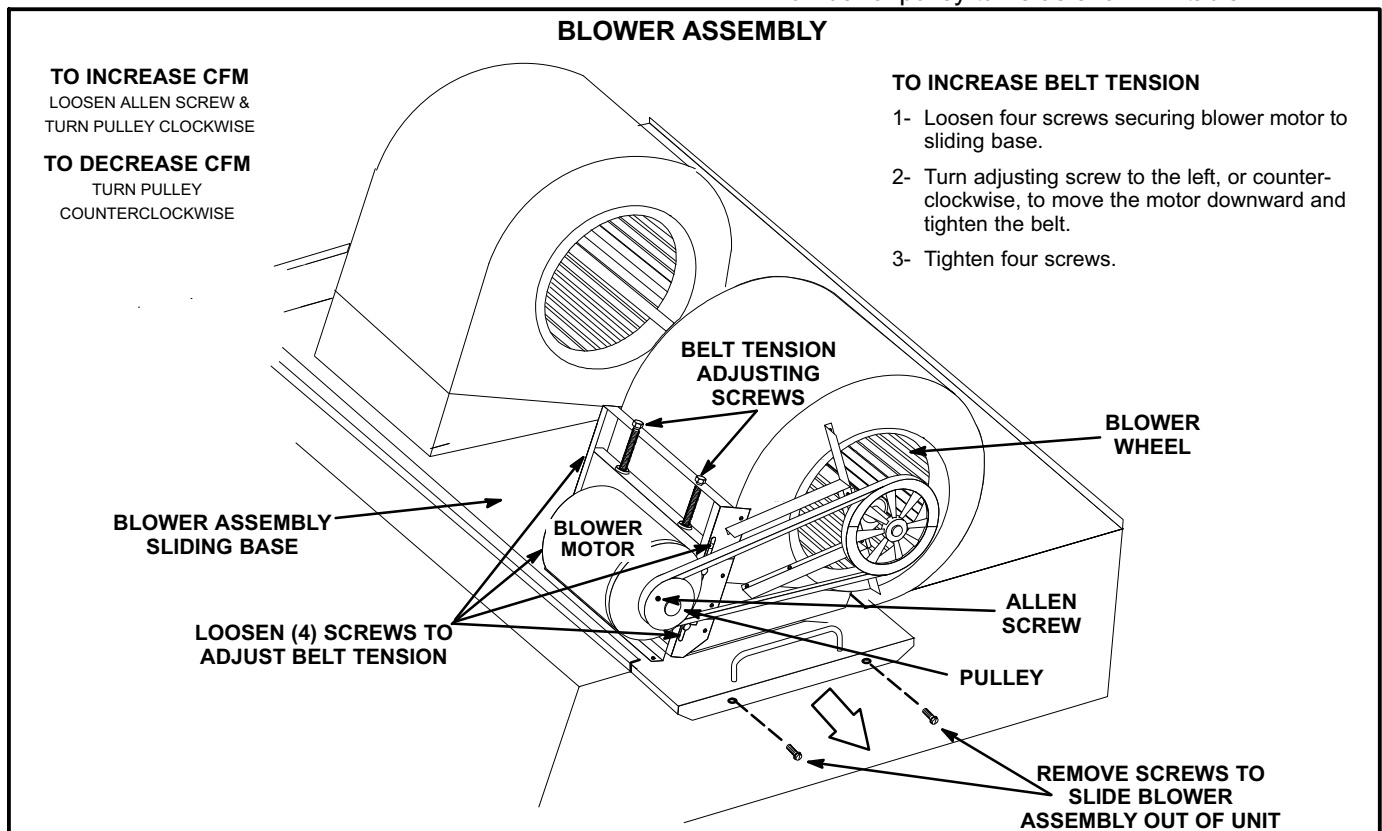

FIGURE 6
The blower assembly is secured to a sliding base which allows the entire assembly to be pulled out of the unit. See figure 6.
- 4- The blower RPM can be adjusted at the motor pulley. Loosen Allen screw and turn adjustable pulley clockwise to increase CFM. Turn counterclockwise to decrease CFM. See figure 6. Tighten Allen screw after adjustment. Do not exceed minimum and maximum number of pulley turns as shown in table 1.
1- Loosen four screws securing blower motor to sliding base. See figure 6.